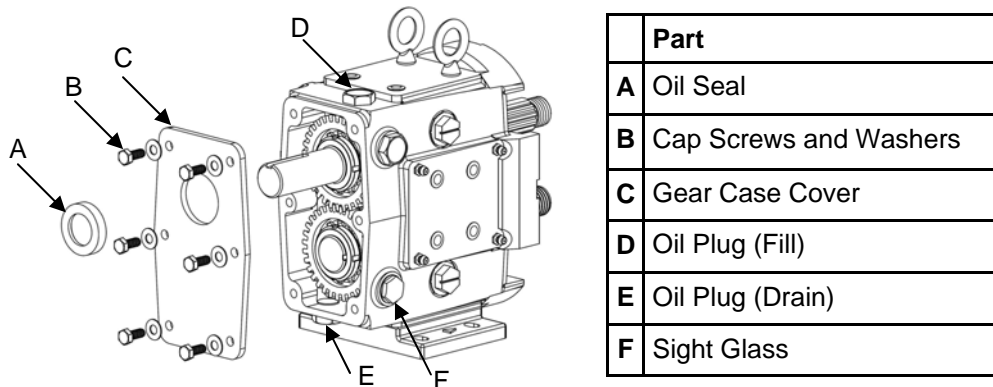

Figure 44: Gear Case Disassembly (Gear Case Cover)
1) Remove the pump head as described on page 16 (Pump Disassembly). Remove the bottom oil plug and drain the oil from the gear case (remove oil fill plug for faster drain). Remove the six hex head cap screws and washers from the gear case cover and slide the cover off the drive shaft (Figure 44). If the cover is stuck, use a soft mallet to tap around the edges until it breaks free. Using a straight edge remove the liquid gasket used to seal the cover to the gear case. Remove and discard the oil seal from the cover using an arbor press.